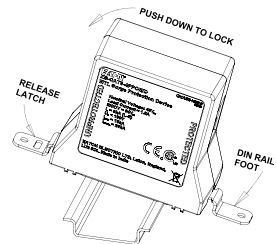

Figure 2 - Mounting and grounding on a Din Rail
4. To install a SPD surge protector on a Din Rail, locate the Din Rail foot over the Din Rail and securely push the clip onto the Din Rail. Rotate downward and push the SPD onto the Din Rail until the latch snaps on to the rail. (see figure 2).